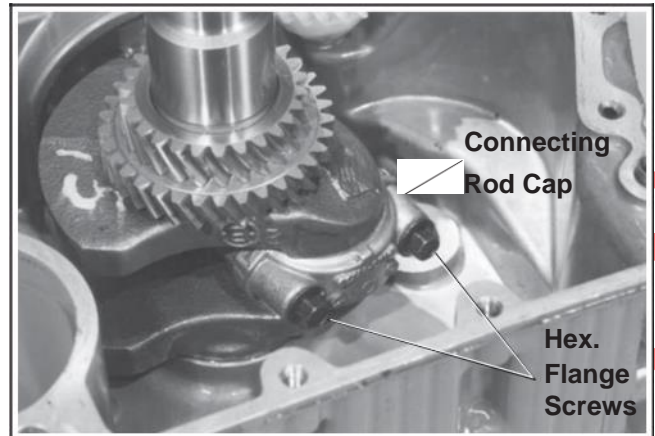

Figure 9-47.
1. Remove the two hex. flange screws and connecting rod cap. See Figure 9-47.